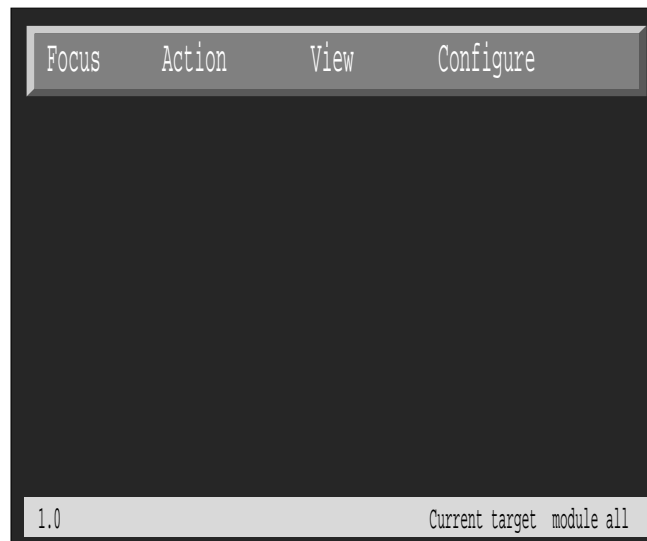

Figure 4-8 MMSC Interface
7. If you do not press Esc within five seconds, the system comes up and displays the desktop. At this time the MMSC interface panel should be displaying the standard processor activity screen, similar to Figure 4-8.